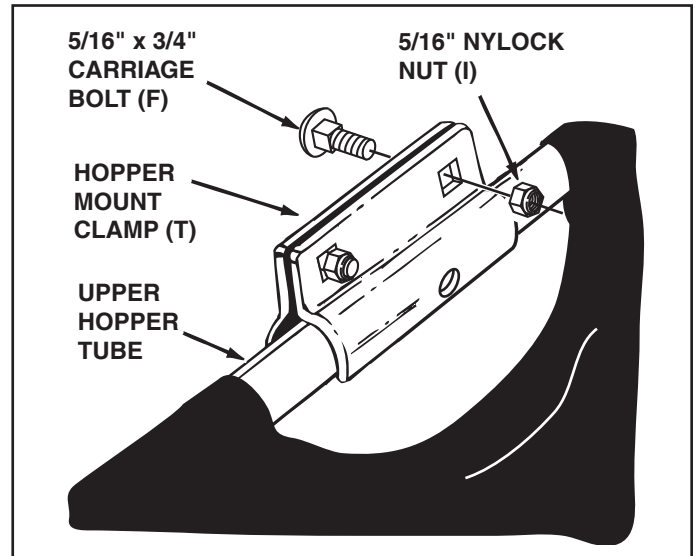

FIGURE 17
- Assemble two hopper mount clamps (T) over the hole in the middle of each upper hopper tube using two carriage bolts (F) and two nylock nuts (I). Tighten only finger tight. See figure 17.